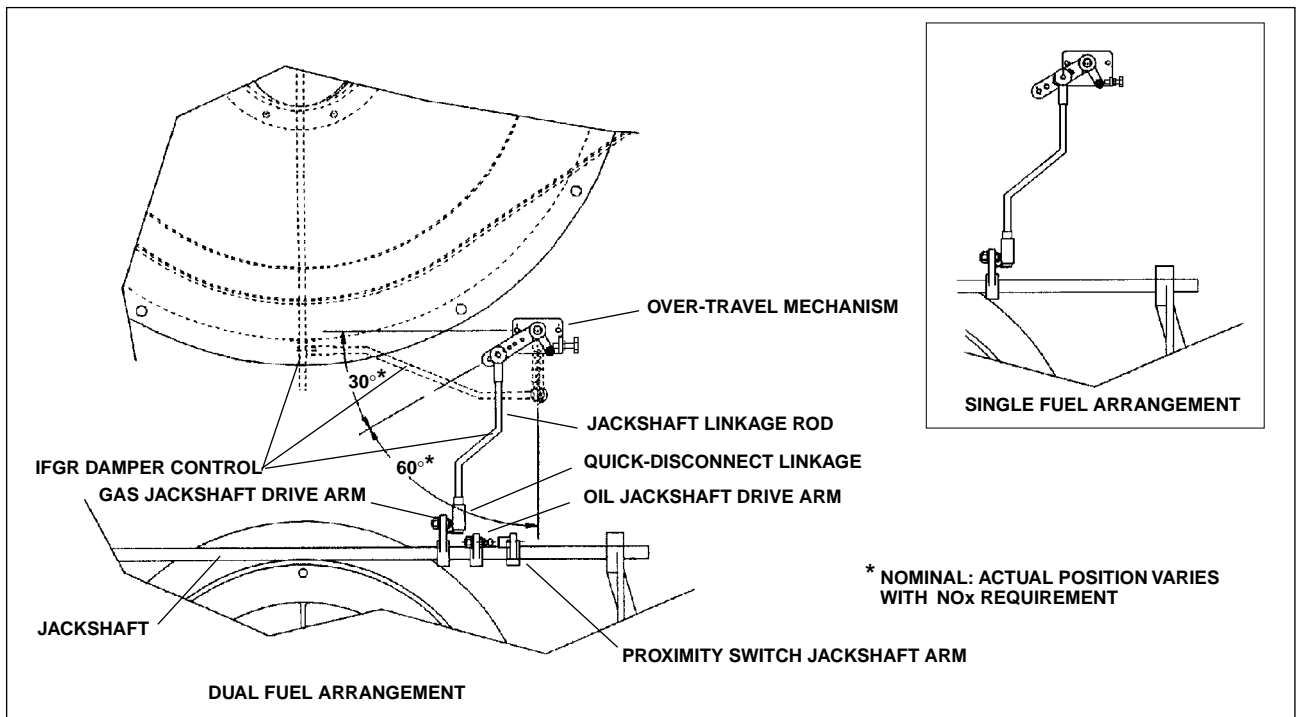

Figure: 1-15 IFGR Damper Linkage
2. IFGR Damper Linkage (Figure 1-15). The IFGR damper is positioned by the control linkage. The linkage could consist of a single arm, or it could consist of several arms driven from the jackshaft to provide modulating control (see Figure 1-15).
4. Fuel Change-Over Linkage (Figure 1-15). When a boiler is equipped to fire either gas or oil (dual-fuel boilers), and the required NOx levels are below 60 ppm on natural gas, a dual-linkage arrangement is used to provide the different recirculation rates required for each fuel. Two jackshaft drive arms are provided, one for oil and one for gas. The linkage is manually connected to the appropriate arm, based on the fuel being used.